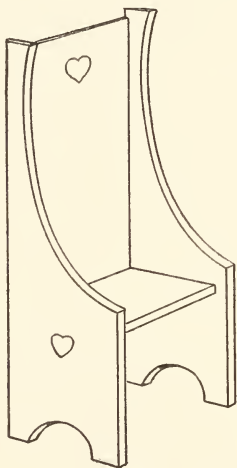

FIG. 267.
**The Chairs** shown in Figs. 267 and 268. These are four and one-half inches high, two inches wide, and an inch and one-half deep. Cut the back for the chair in Fig. 267 four and three-eighths inches high and an inch